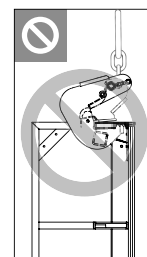

Fig. A7.04a
- Always transport TRIO Inside Corners in combination with the next panel. Attach Lifting Hook to the next panel (high profile)! (Fig. A7.04a)